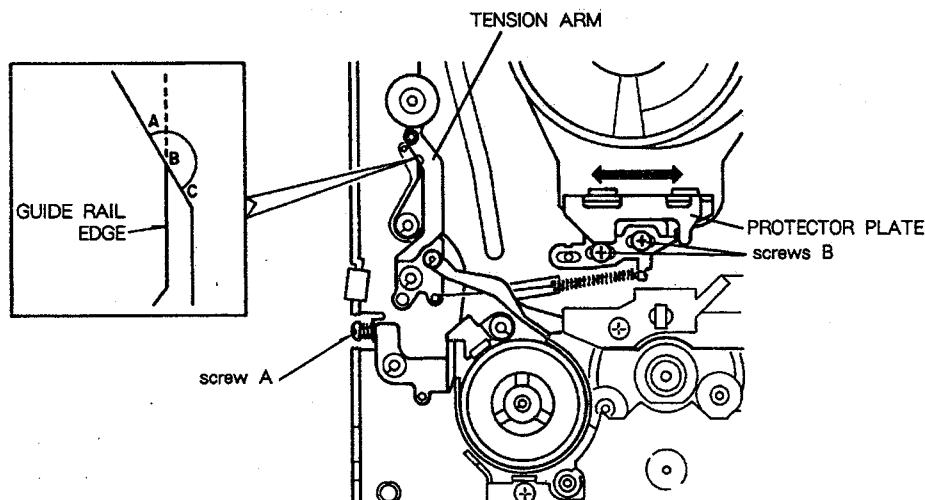

Fig. 2-2
Using a Phillips screwdriver, turn adjust screw A (See Fig. 2-2), then align the center of the semicircular portion of the tension arm to the guide rail edge.
This should fall within range A to C (See Fig. 2-2).
2. If the standard value is not satisfied, remove the torque cassette, loosen screws B (two) in Fig. 2-2 and adjust by moving the protector plate to the left and right. If moved to the left, the torque is reduced, whereas if moved to the right, it increases.